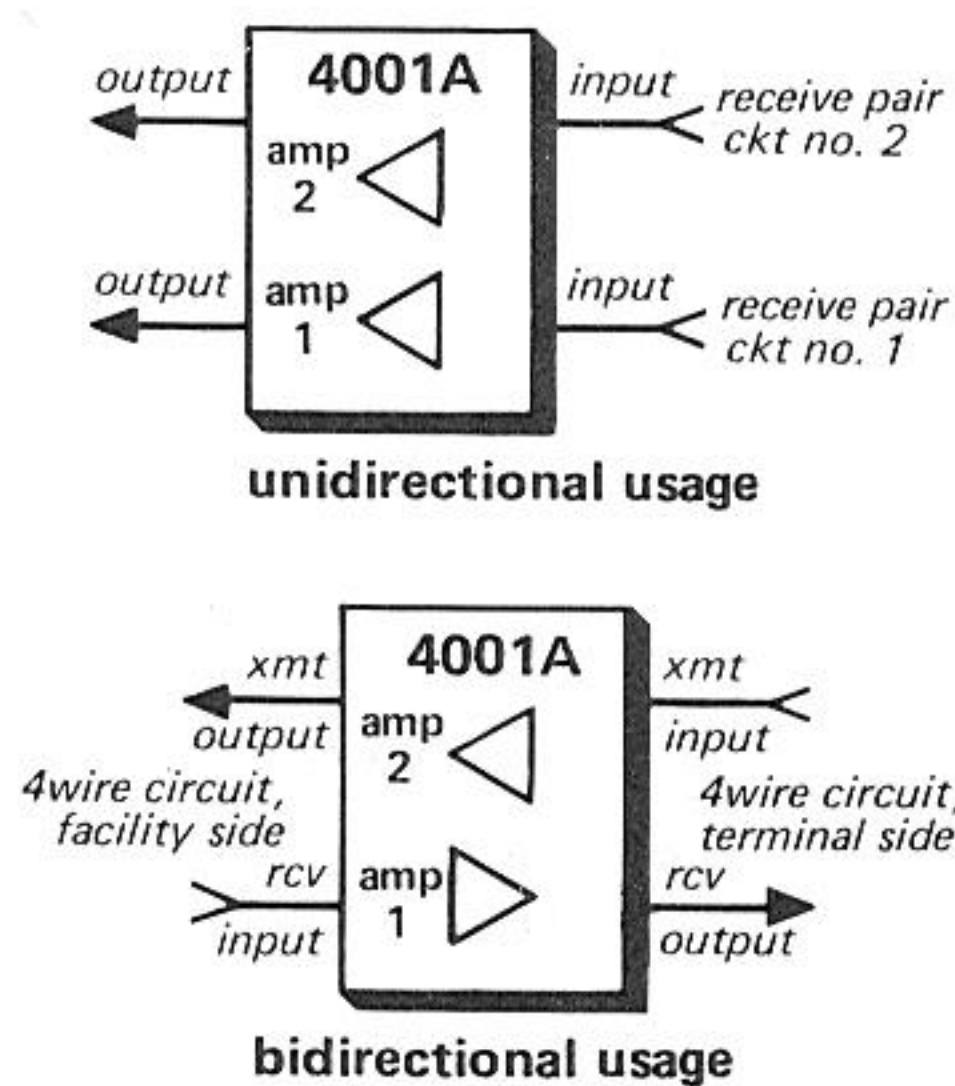

figure 2. Bidirectional and unidirectional applications
2.01 The 4001A Line Amplifier module is designed to provide bidirectional (transmit and receive) level control and amplitude equalization to a 4wire voice frequency transmission facility; or it may provide unidirectional level control and amplitude equalization in two separate, one-way voice frequency channels (see figure 2). The module also contributes input and output impedance matching,